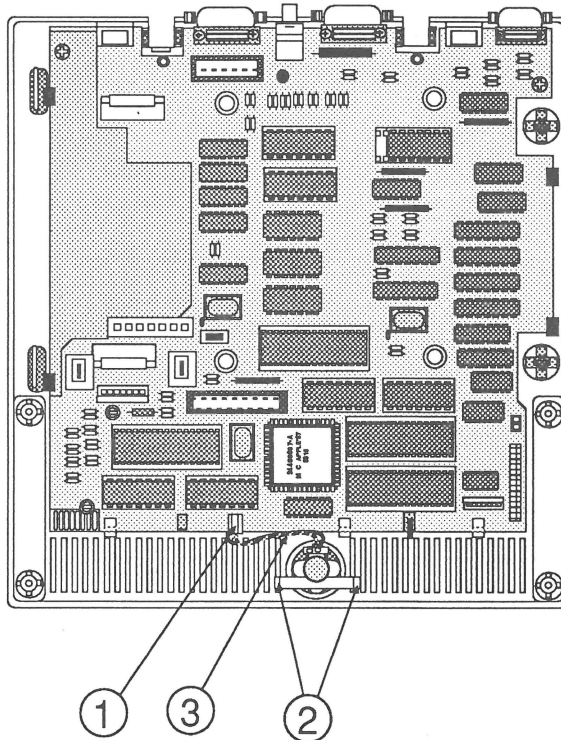

FIGURE 13
3. Disconnect the speaker cable from logic board connector J10 (Figure 13, #1).
4. Press in on the two tabs of the speaker snap (Figure 13, #2). Remove the snap.
1. Place the speaker in position in the bottom case. The speaker wires should be coming from the bottom of the speaker (as shown in Figure 13, #3).